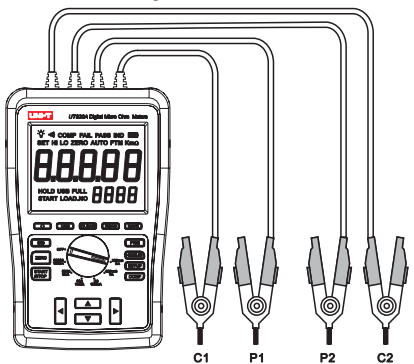

Figure 8:
1. Connect alligator clips to P1, P2,C1 and C2 terminals of the meter and to the object under test; P1 and P2 alligator clips are placed inward as shown in Figure 8